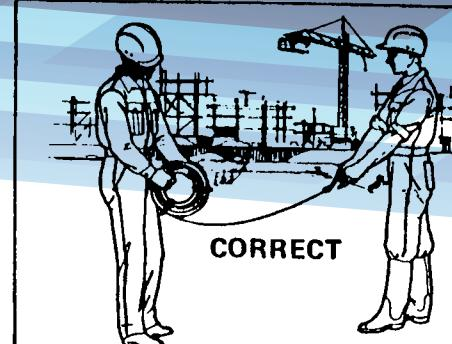

Fig. 9
- the wire rope should be reeled and unreeled in a straight line (Fig. 9) to prevent loops and kinks (Fig. 10). Kinked wire rope will not work in the GRIPHOIST machine. For this reason never use the rope as a sling; always use a separate wire rope or chain sling;